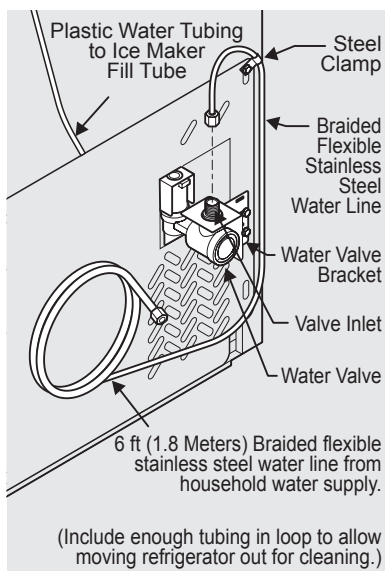

**Figure 1**
- 4 If you use copper tubing - Slide brass compression nut, then ferrule (sleeve) onto water supply line. Push water supply line into water valve inlet as far as it will go (1/4 inch/6.4 mm). Slide ferrule (sleeve) into valve inlet and finger tighten compression nut onto valve. Tighten another half turn with a wrench; DO NOT over tighten. See Figure 1.